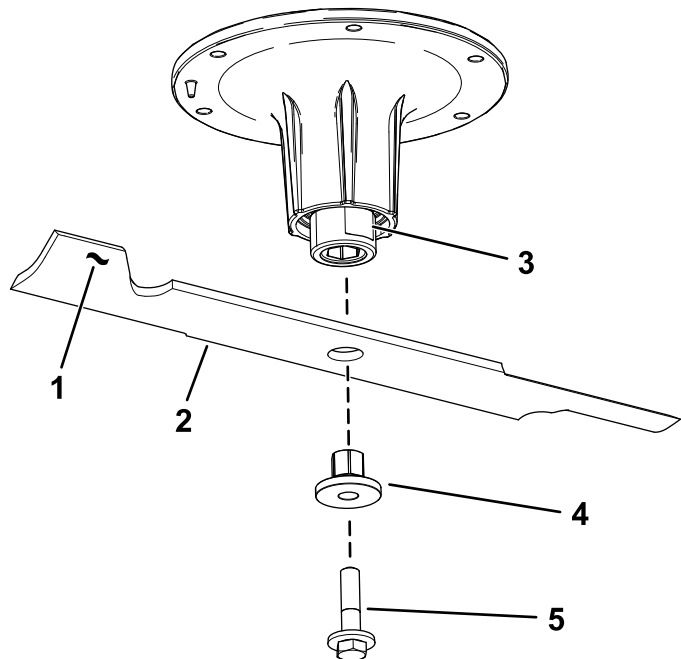

Figure 118
2. Remove the blade bolt, bushing, and blade from the spindle shaft (Figure 118).